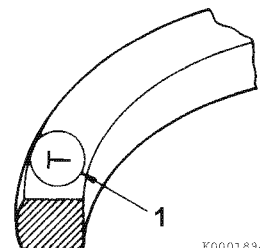

Figure 6-92
- The top and second piston rings must be installed with the stamped “makers mark” (1, **Figure 6-92**) facing the top of the piston. The “makers mark” may vary in appearance but will always be located on the top surface of the piston ring adjacent to the piston ring gap. The oil ring and oil ring expander can be installed either side up.